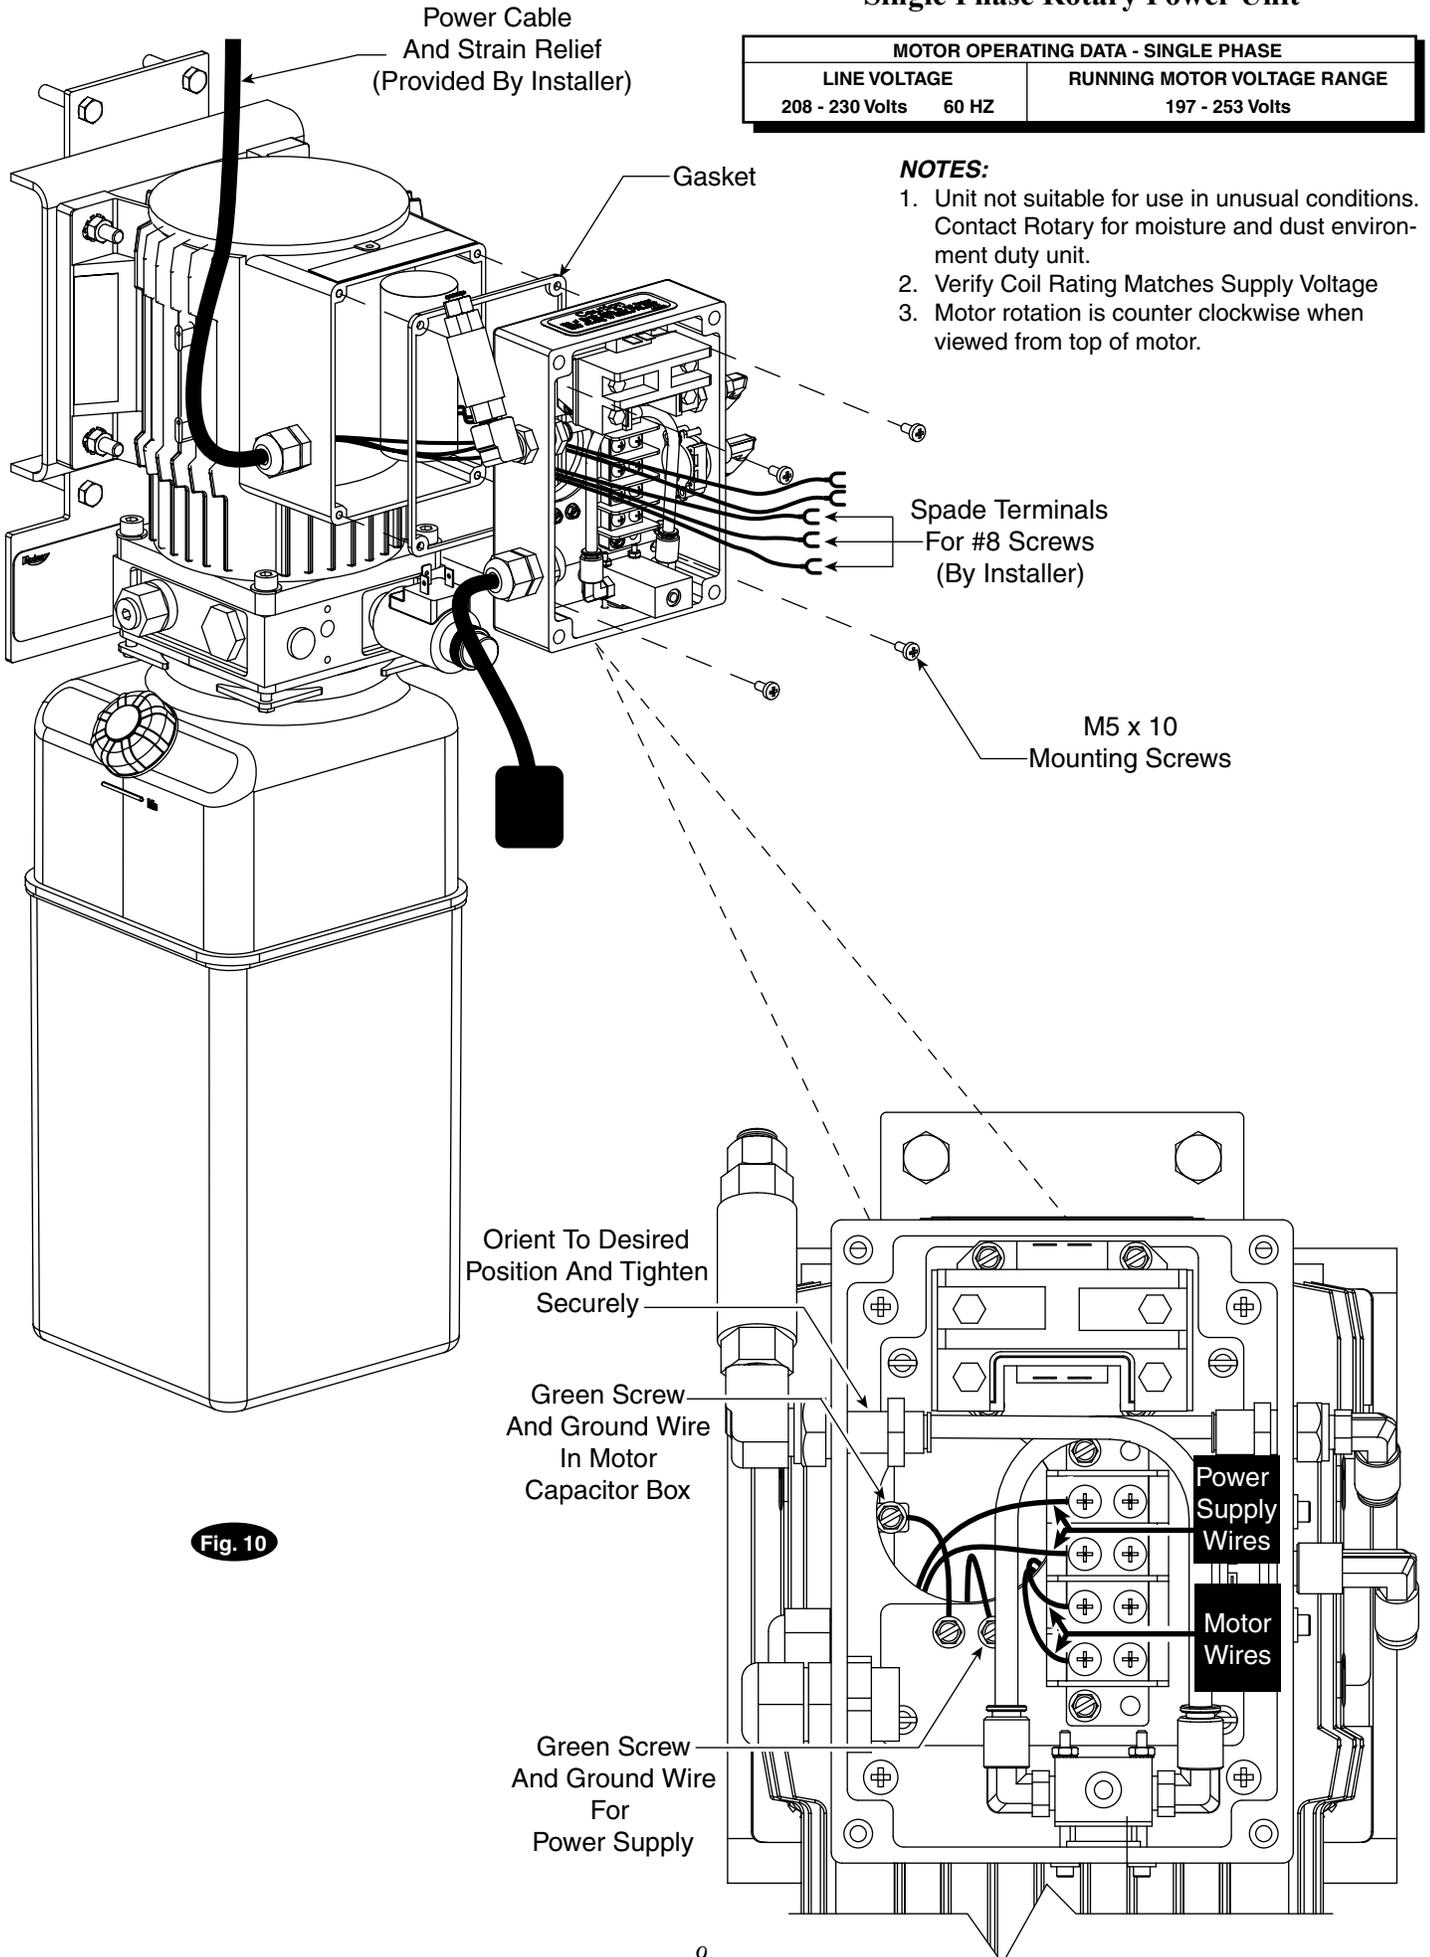

Fig. 10
9. Mounting Master Control Panel, Fig. 10:
- A.** Remove front cover of Master Control by unscrewing the (4) screws and unplugging the harness.
- C.** Place gasket on the front of the capacitor box, Fig. 10.
- D.** Route (2) motor wires through gasket and the hole in the back of Master Control Box. Fasten to indicated locations on terminal block, Fig. 10.
- E.** Route green ground wire through gasket and fasten to the ground screw inside the capacitor box of the motor, Fig. 10.
- F.** Have a certified electrician run appropriate power supply to the side of the capacitor box of the motor and run the ground wire and power wires through the gasket and the hole in the back of the master control box. Fasten the ground wire to the additional ground screw in back plate and fasten the (2) power wires to the indicated locations on the terminal block.
ATTENTION Fasten spade terminals to the ends of the wires sized for fastening to a #8 screw, Fig. 10.
- G.** Fasten the Master Control Box with the (4) M5x10 PHMS included making sure the gasket seats between the capacitor box sides and the back of the Master Control Box, Fig. 10.
- H.** Push excess ground and power wires into the capacitor box behind the control, Fig. 10.
- I.** Orient bulkhead for input air to desired position and tighten securely, Fig. 10.
- J.** Plug harness and reattach cover of the master control box, making sure all wires are inside the box and plug is above the terminal block, Fig.10.